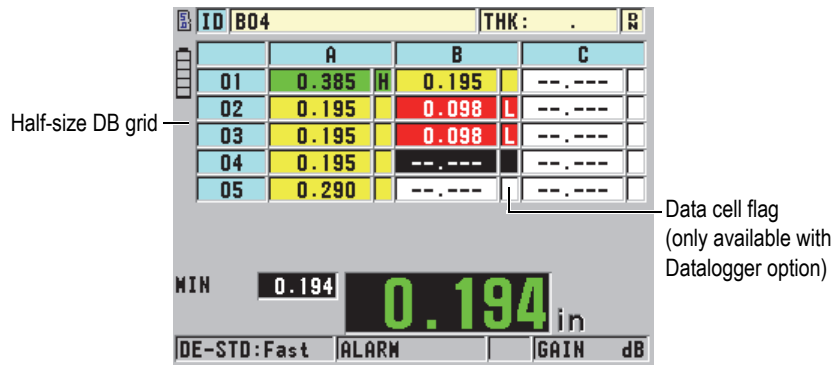

Figure 9-7 Example of the half-size DB grid
The database grid (DB grid) is a table representation of 2-D data. This representation enables you to move freely in any direction on a grid, rather than follow a preset list of IDs. Instead of automatically incrementing to the next ID location, you can use the arrow keys to move to a location that is more convenient. You can simultaneously display the A-scan, the DB grid, and the thickness reading (see Figure 9-7 on page 167). You can configure the grid cells to show a data cell flag and a background color corresponding to the range in which their thickness reading falls.
- Set **DATA CELL FLAG** to one of the available options in order to display a single data flag with each data cell in the DB grid. The data cell flag is a letter that appears in a small box to the right of the thickness value in the data cell (see Figure 9-7 on page 167). The available options are: